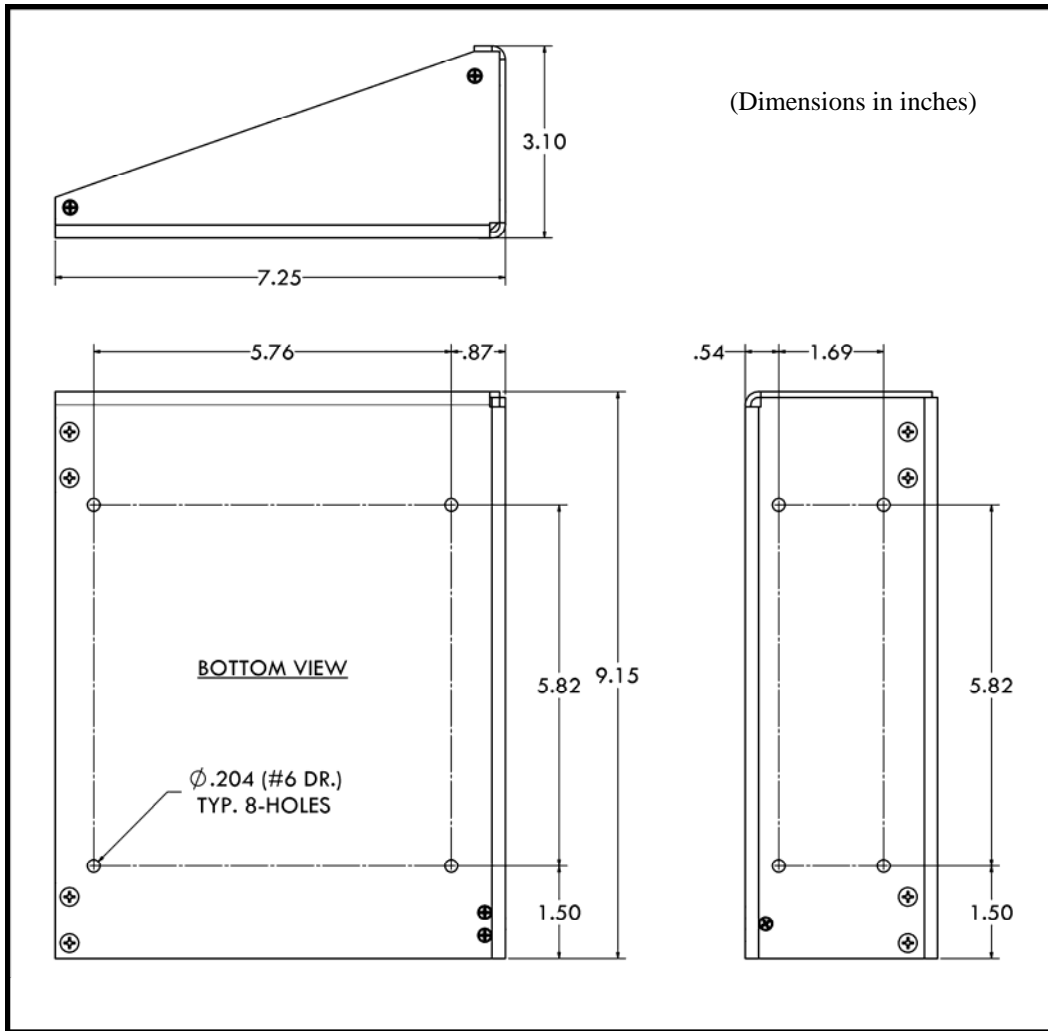
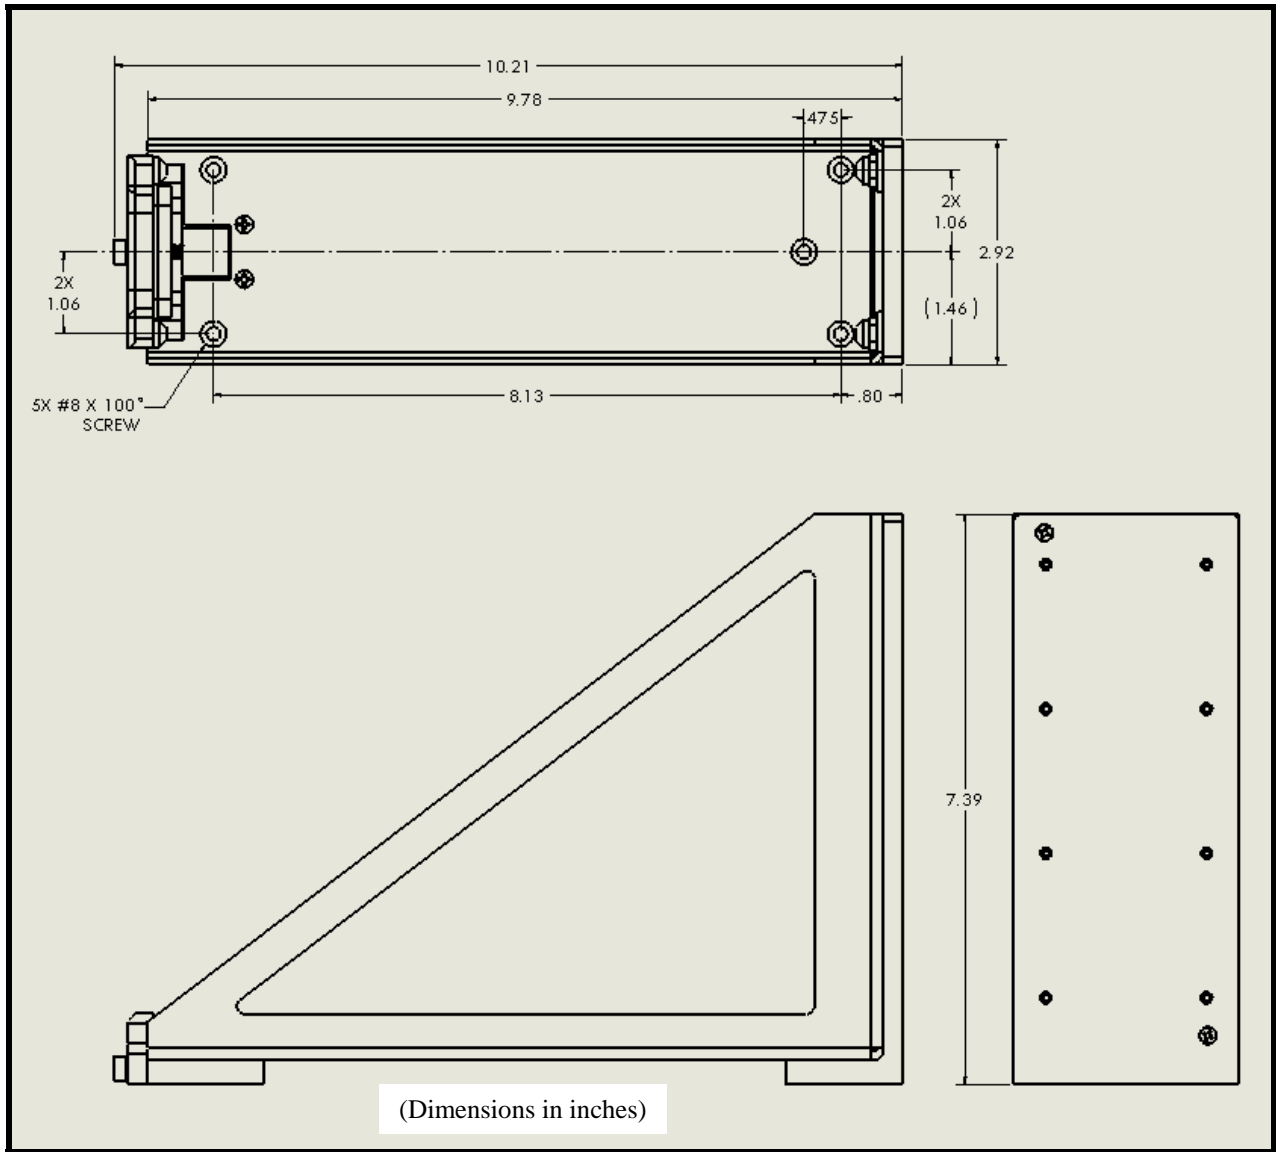

Figure 10: Processor Mounting Tray Hole Pattern for 60-2006 and 700-00187-000 and 700-00187-001 trays
Figure 11: Processor Mounting Tray Hole Pattern for 700-000187-002 tray
- D. All Processor Mounting Trays can be installed using the mounting holes provided. For specific spacing see Figure 10 on page 55 and Figure 11 on page 56.